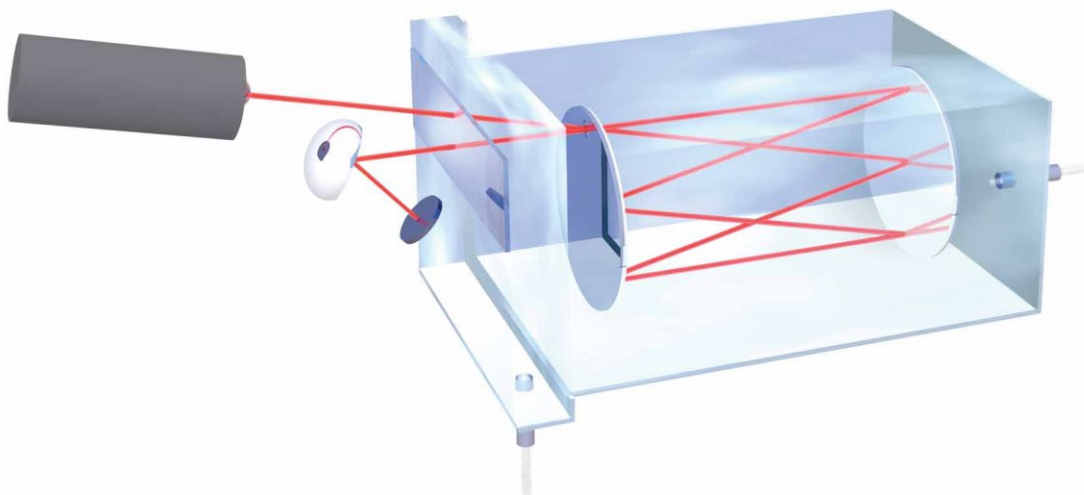

Figure 97 Schematic of Moisture Cell
The NanoTrace Moisture Analyzer uses infrared (IR) absorption as its detection method. IR absorption is a subset of the overall field of spectroscopy, which concerns the interaction of light and matter. A conceptual drawing of the type of moisture cell used in the analyzer (called a Herriott cell for physicist Donald R Herriott) is shown in **Figure 97**. The cell includes a laser light source, an enclosed cavity through which the sample gas passes, a system of mirrors, and a light sensor.